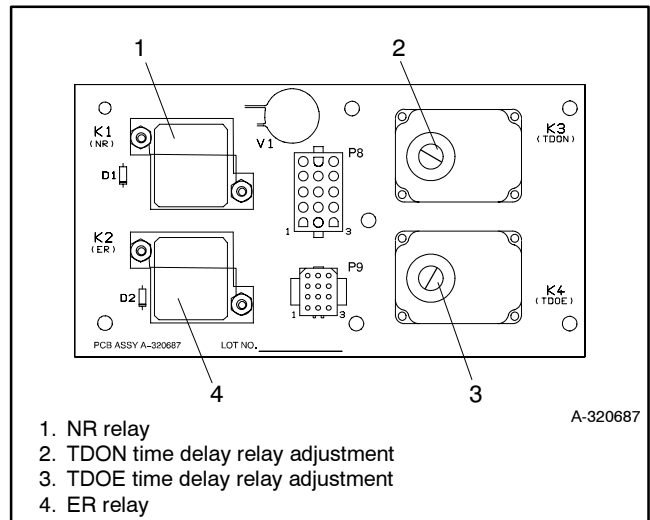

Figure 6-3 Interface Circuit Board with Time Delay Off Relays
Switches equipped with programmed transition have a power switching device with an OFF position and two time delay relays on the interface circuit board. See Figure 6-3. With programmed transition, power transfers occur from the normal-to-emergency or emergency-to-normal sources of power in three steps:
4. Locate the appropriate time delay relay on the interface circuit board. See Figure 6-3.